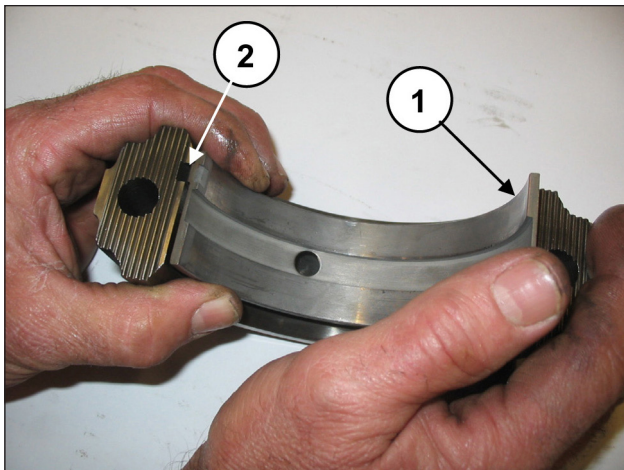
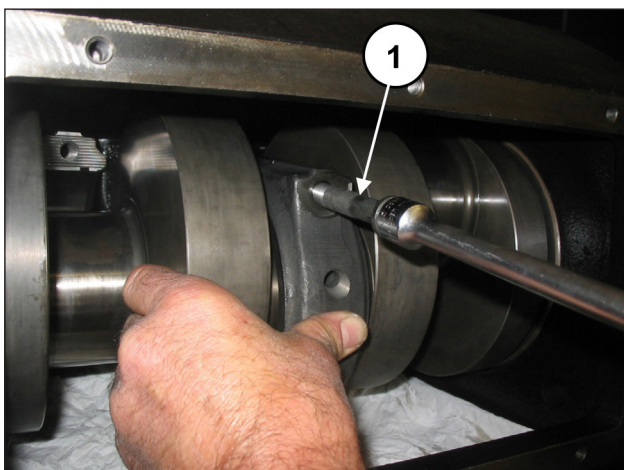

Fig. 61
Fig. 62
Apply the lower half-bearings to the caps (pos. ①, Fig. 61) ensuring that the half-bearing reference notches are positioned in their housing on the cap (pos. ②, Fig. 61). Fasten the caps to the half-conrods by means of M12x1.25x87 screws (pos. ①, Fig. 62).